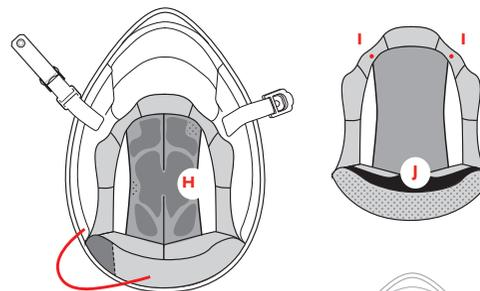

FIGURE 7
**Inner central padding: INNER SHELL — H — Figure 7/8**
**Removing the inner padding — Figure 7**